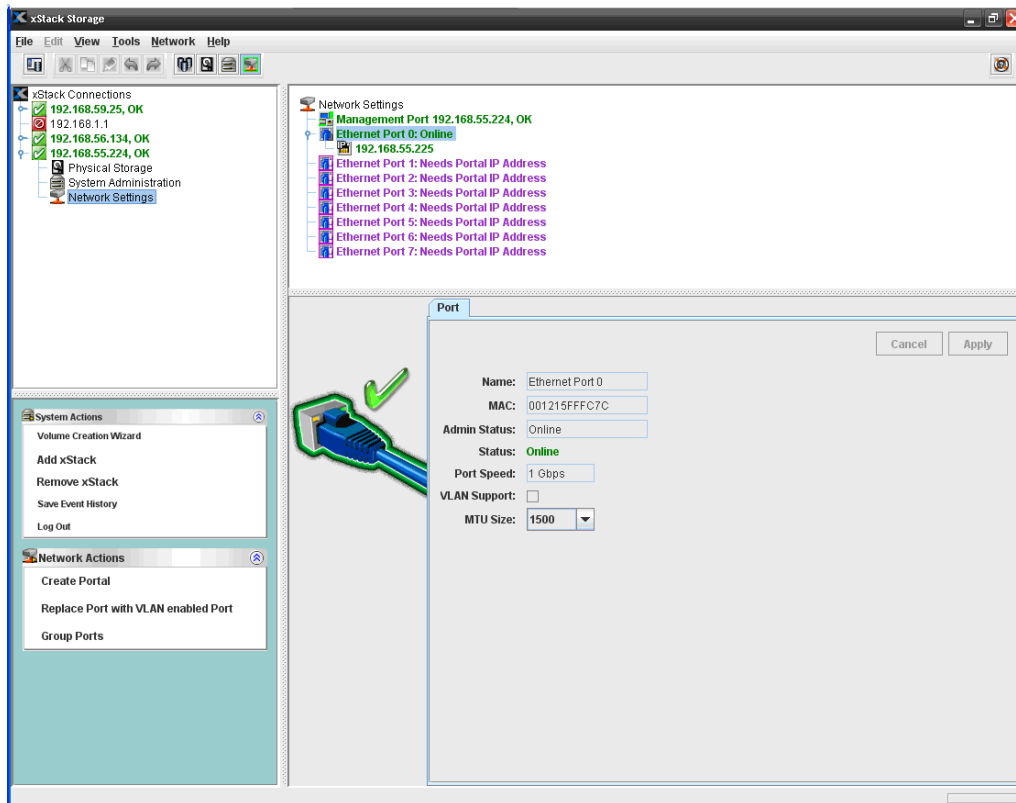

Figure 7-4. Port Tab
*The **Port** tab shows the settings for the selected Ethernet port (see Figure 7-4).*